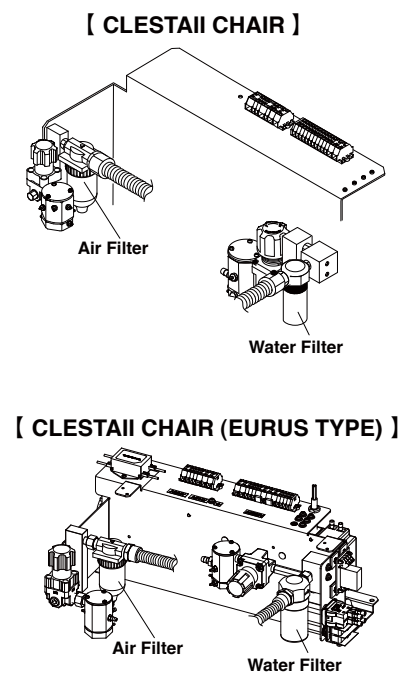

Fig.5-17 Filter
(10) Filter Replacement (**Fig.5-17**)